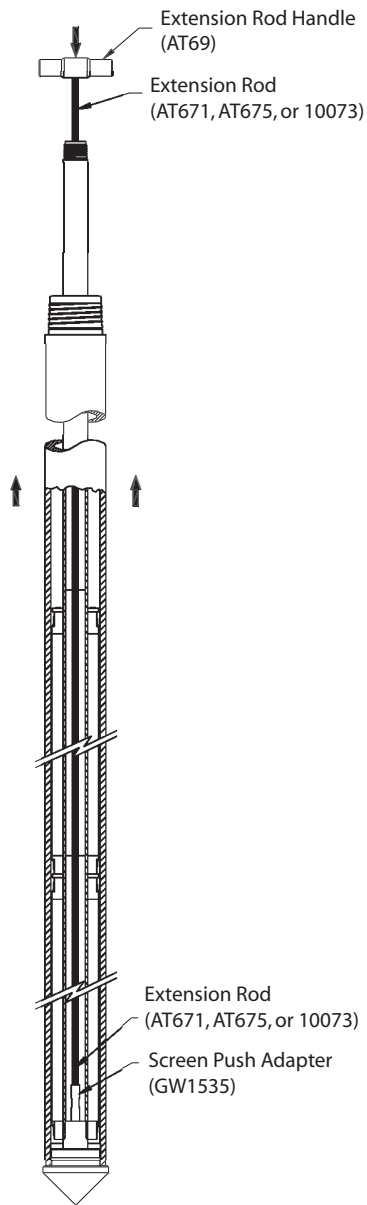

FIGURE 4.6
- i. Place a Screen Push Adapter on the end of an Extension Rod. Insert the adapter and extension rod into the PVC riser and hold either by hand or with an Extension Rod Jig. Attach additional extension rods with Extension Rod Couplers or Extension Rod Quick Links until the push adapter contacts the bottom of the screens (Fig. 4.6). Place an Extension Rod Handle on the top extension rod after leaving 3 to 4 feet (0.9 to 1.2 m) of extra height above the last probe rod.
- ii. Slowly retract the probe rods while another person pushes and taps on the screen bottom with the extension rods (Fig. 4.6). To ensure proper placement of the screen interval and to prevent well damage, be careful not to get ahead while pulling the probe rods. The risers should stay in place once the probe rods are withdrawn past the screens. Retrieve the extension rods. Place the plug back into the top riser and secure it with duct tape if necessary.